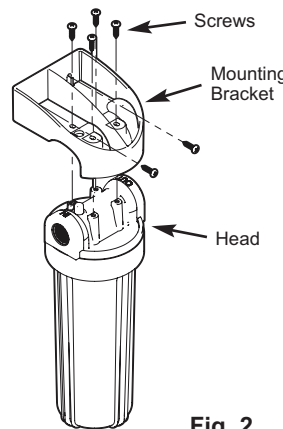

Fig. 2
**NOTE:** A mounting bracket and screws are included to support the filtration system (See Figure 2).